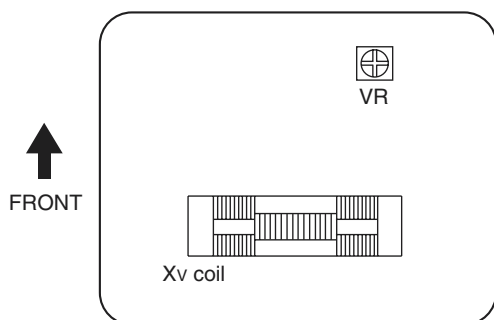
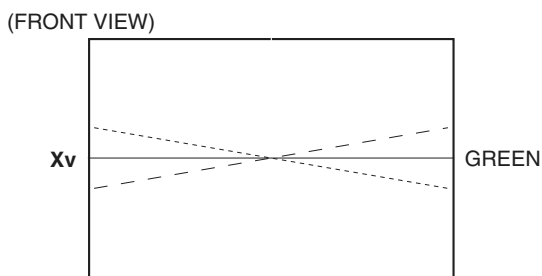

Fig. 8
Fig. 7
4. Adjust XV by XV coil. (Fig.7) (Fig.8)